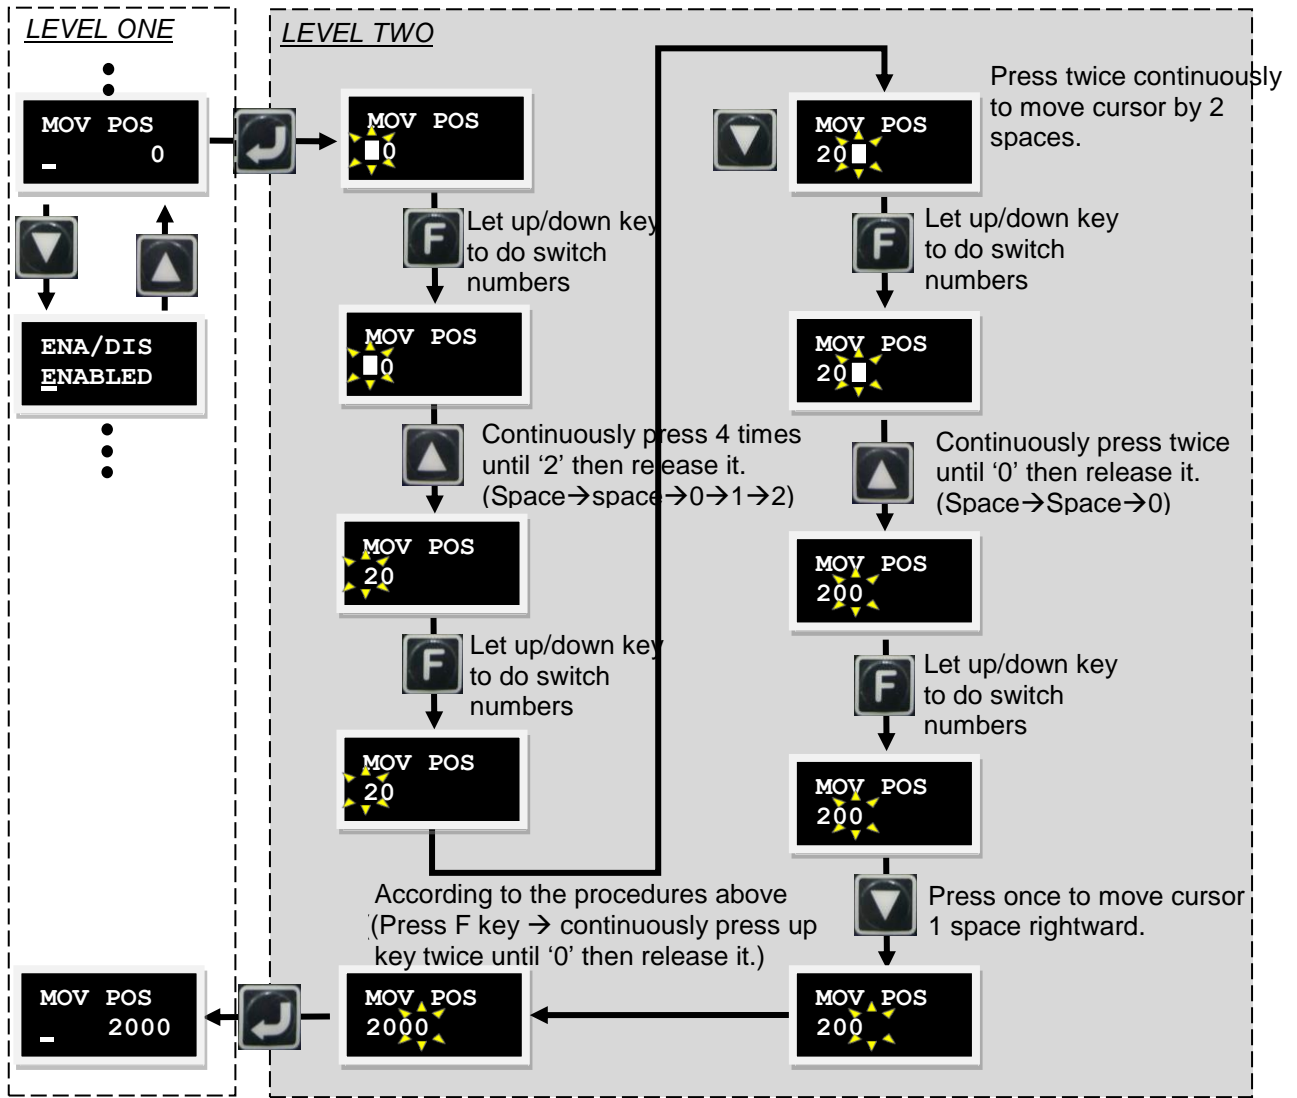

Figure 6-17 Operation flow chart of MOV POS
(1) First press the up or down key to select the item of setting absolute position (MOV POS). Please refer to section 6.5.2: to do the settings and target position should be set to 2000. After this, go to the next step.
(2) Go to MOV2POS item. After pressing the ENTER key, enter activate motion (Move to target position) item (There is a flashing solid cursor at left side of second line). The operation procedures are shown in Figure 6-17.
(3) Press the up key to move motor to absolute position 2000 which is set in MOV_POS. Feedback position (01FB POS) is displayed on LCD panel during motor motion.
(4) Press the down key to move the motor to absolute zero position and the feedback position (01FB POS) is displayed during motor motion.
(5) Press the ENTER key to go back to LEVEL ONE.